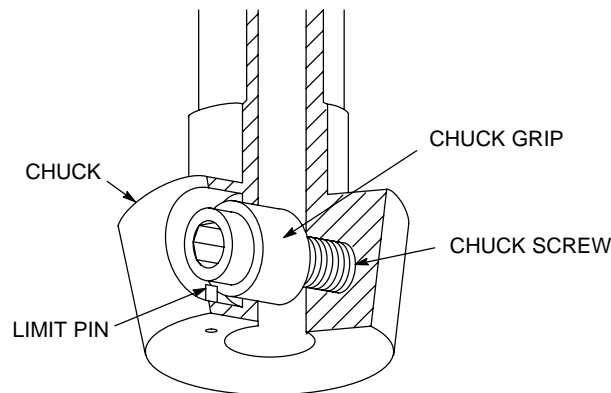

FIGURE 1 – CHUCK DETAILS
- a . To install the mixer shaft, back off the chuck screw (refer to Figure 1) as far as the limit pin will allow. DO NOT FORCE.